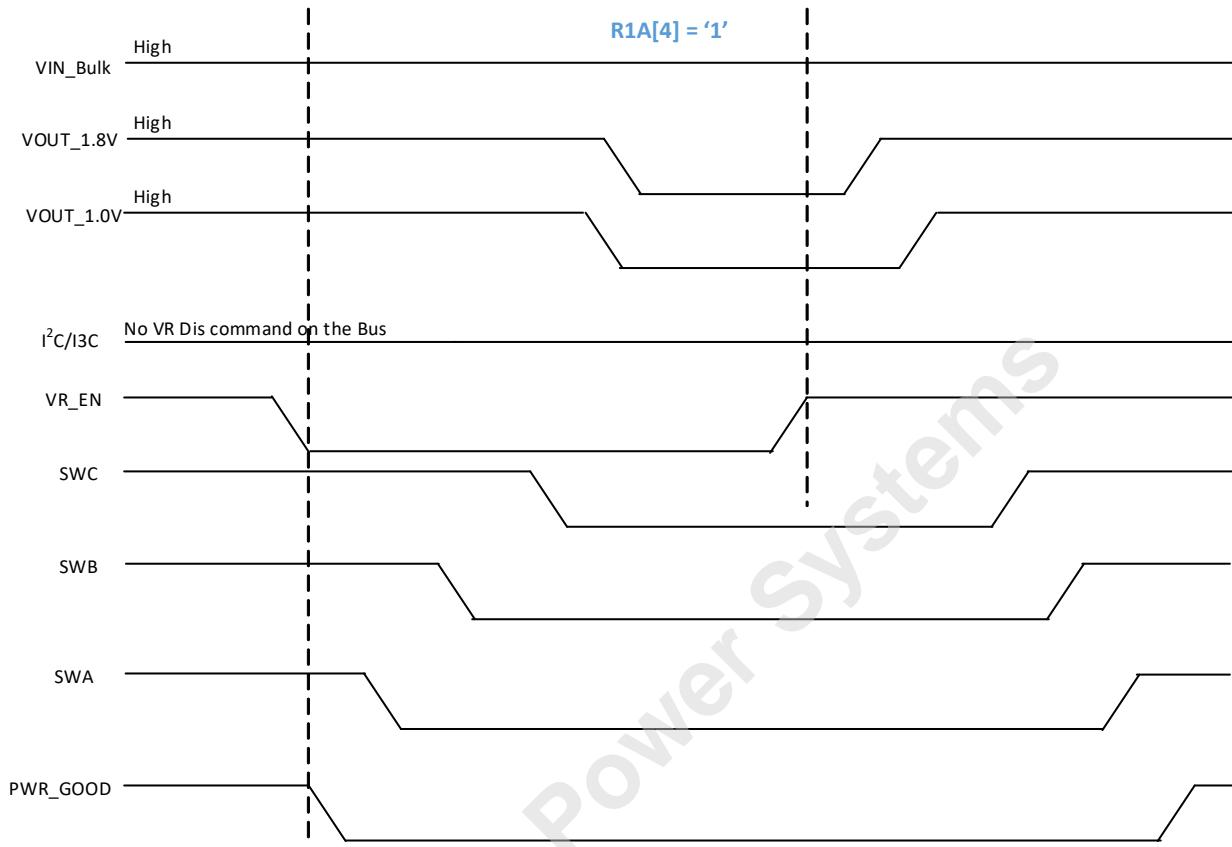

Figure 28 — Power Down with VR\_EN Pin; R1A[4]=1; Program. Mode; PWR\_GOOD Signal
- a. If VR Disable command with a pin (i.e., VR\_EN pin transitions to Low), PMIC asserts PWR\_GOOD signal Low. The host can re-enable the PMIC’s output regulators by VR\_EN pin transition to High. The PMIC exits from P1 state and executes power on sequence config 0 to power on sequence config 2 registers and floats PWR\_GOOD signal after tPMIC\_PWR\_GOOD\_OUT timing parameter is satisfied. See Figure 28. The PMIC does not require power cycle.